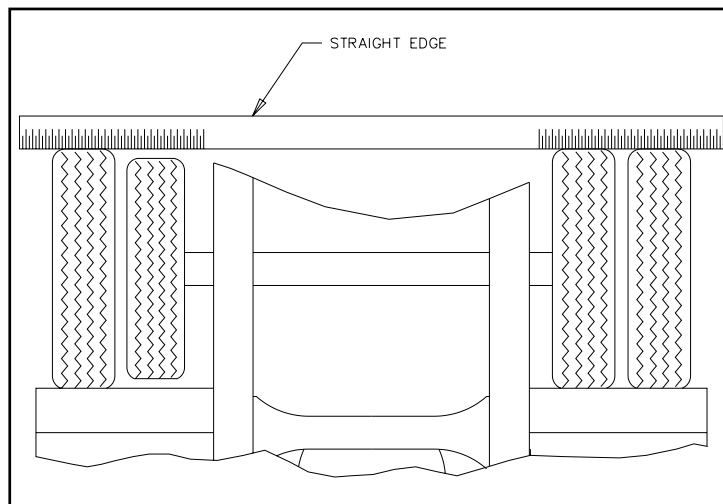

Fig. 4-18 Straight Edge Method
- b. **Straight Edge or String Method:** (This method cannot be used if tire and wheel assemblies are not mounted on the axle.) Jack semitrailer up until the wheels are off of the ground. Hold a straight edge against the tires of both ends of an axle. A gap at one tire indicates a smaller tire. A maximum of 1/8" gap is allowed (**See Figure 4-18**).